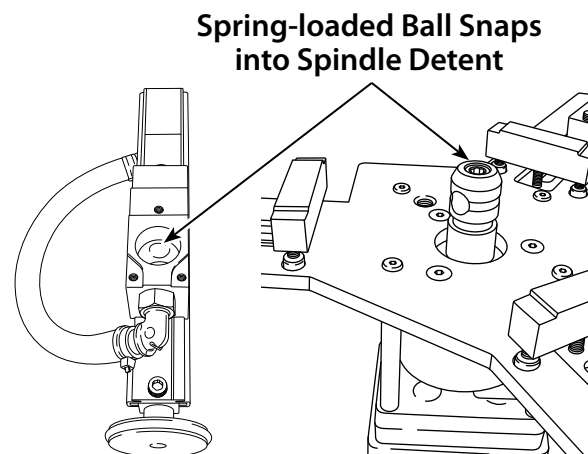

Figure 10
7. Select the longest nozzle arm that will clear the legs of the fixture but still reach the outer diameter of the DPF. Connect the nozzle arm to the spindle shaft using an "align, push and twist" movement. The spring-loaded ball should snap into the spindle detent. (Figure 10)